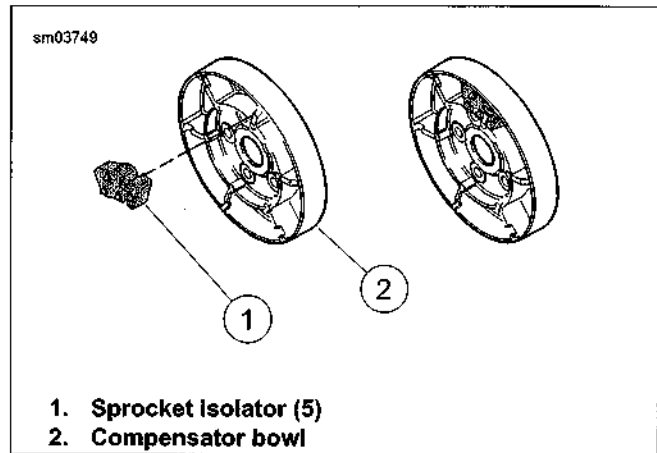

Figure D-7. Installing Sprocket Isolators
2. See Figure D-7. Lubricate isolators (1) with soapy water or window cleaner. Install isolators (1) into compensator bowl (2).